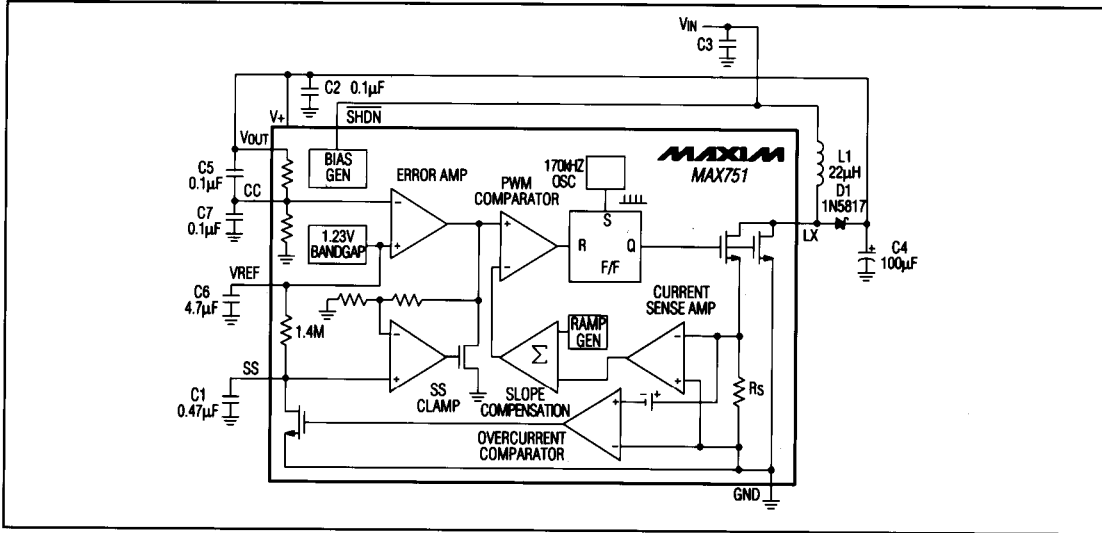

Figure 1. Detailed Block Diagram with External Components, Bootstrapped Mode
(Circuit of Figure 1, VIN = +3V, ILOAD = 0mA, TA = TMIN to TMAX, typical values are at TA = +25°C, unless otherwise noted.)
(Circuit of Figure 1 in bootstrapped mode, $L_1 = 22\mu\text{H}$, $T_A = +25^\circ\text{C}$, unless otherwise noted.)
(Circuit of Figure 1 in bootstrapped mode, L1 = 22μH, T_A = +25°C, unless otherwise noted.)
The controller consists of two feedback loops: an inner (current) loop that monitors the switch current through the current-sense resistor (R_S) and amplifier, and an outer (voltage) loop that monitors the output voltage with an error amplifier (Figure 1). The inner loop performs cycle-by-cycle current limiting, truncating the power transistor on time when the switch current reaches a threshold determined by the outer loop. For example, a sagging output voltage produces an error signal that raises the threshold at the error amp output. This allows the inductor current (which generates the current-sense amp output voltage) to increase, resulting in more energy stored and transferred during each cycle.
The Soft-Start (SS) pin limits power-up current, allowing proper start-up with a load on the output. On power-up, the MAX751 uses the maximum switch duty cycle to draw excessive current to charge the output filter capacitor, and supply current to the load. In this case, the device may stall and the output voltage will not rise to 5V. A capacitor (between 0.047µF and 5µF) is required on SS to ensure proper start-up. The larger the capacitor, the slower the internal current-limit threshold is raised, allowing more time for start-up. As the voltage on the SS pin increases, the voltage at the SS clamp output increases, which in turn increases the current-limit threshold (Figure 1).
Use a Schottky diode with a continuous-current rating of at least 500mA for full-load (≥ 200 mA) operation. The 1N5817 is a good choice. The two compensation capacitor values at the CC input are critical because they have been selected to provide the best transient response. The input capacitor (C3 in Figures 1, 2, and 4) may be omitted if the power supply impedance is very low. Otherwise, up to 100 μ F may be necessary.
The power-up SS charge rate is determined by the time constant formed by the SS capacitor and the internal $1.4M\Omega \pm 25\%$ resistor between VREF and SS (Figure 1).